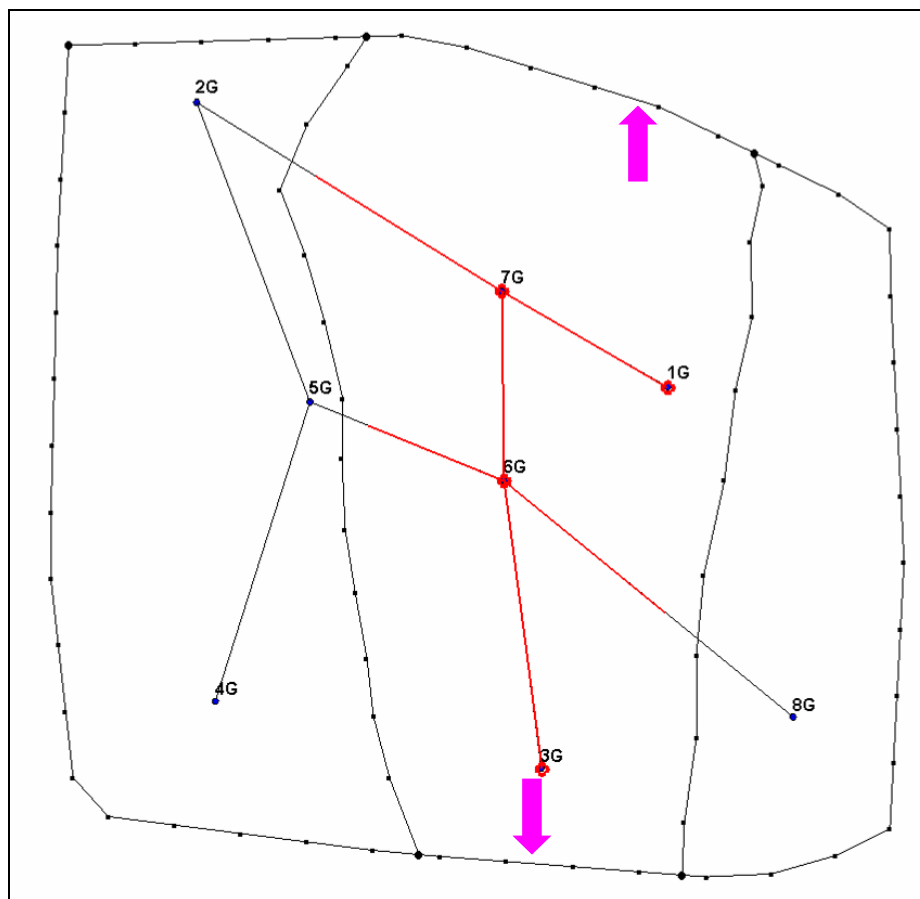

Figure 4. Arcs to be marked as on the outside boundary.
2. While holding down the shift key, select the 2 arcs identified by the arrows shown in Figure 4.